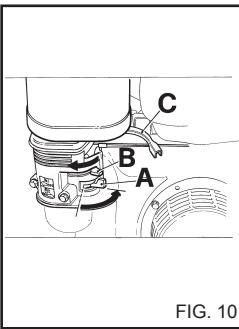

FIG. 10
4) Once the engine has been started, return the choke lever B (fig. 10) back to the original position.